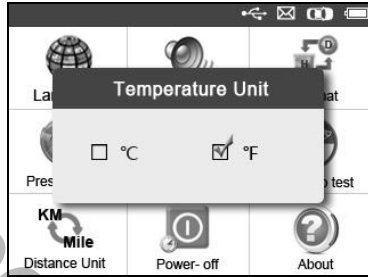

Figure 3.7
- 2) From **Temperature Unit** screen, use the **LEFT/RIGHT** scroll button to select the desired unit of temperature.(Figure 3.7)